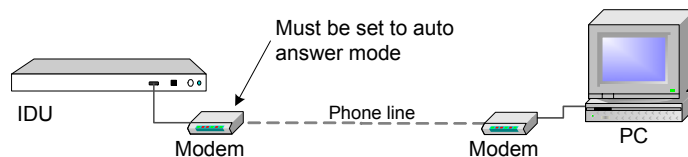

Figure 3.
1. Interconnect the equipment as shown in the Figure 3.